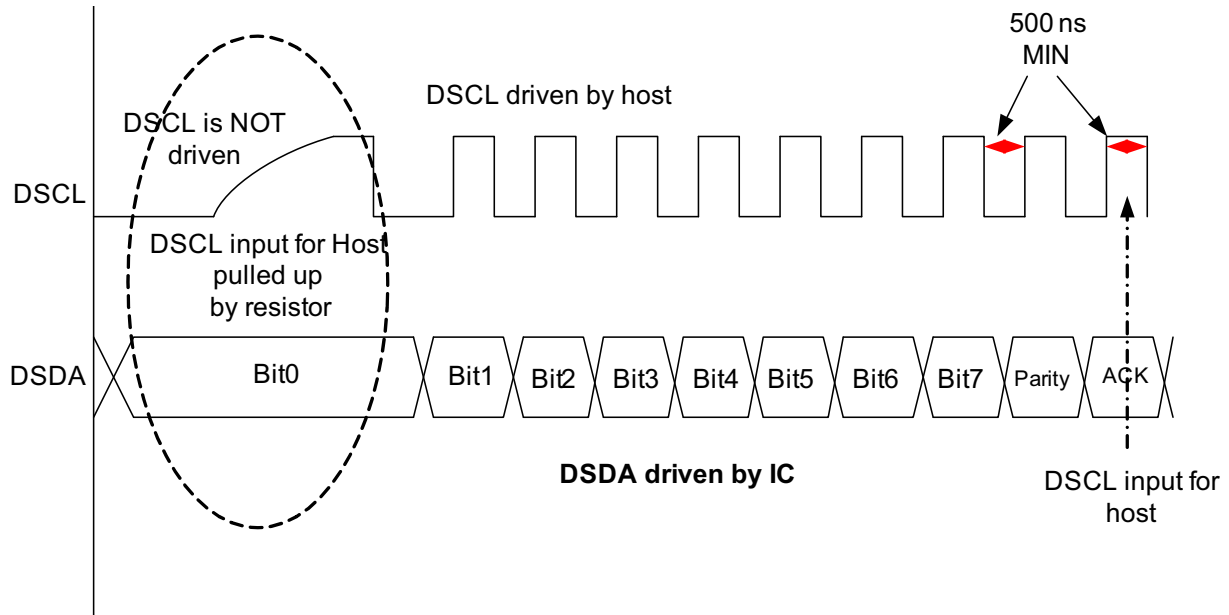

Figure 7. Host Read Timing
If the MCU is in a Busy state during a host read operation, the MCU pulls the DSCL line to GND; the host must wait for the line to be released, as indicated in Figure 7.
► **Note:** In Figure 7, if DSDA is 0000_1100, parity is 0; if DSDA is 0100_1100, parity is 1. If communication occurs without an error, ACK = 0; otherwise, ACK = 1.